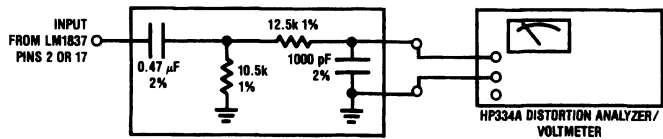

FIGURE 4. Simple 32 Hz-12740 Hz Filter and Meter
**Note 2:** Measured with an average responding voltmeter using the filter circuit in *Figure 4*. This simple filter is approximately equivalent to a "brick wall" filter with a passband of 20 Hz to 20 kHz (see Application Hints). For 1 kHz THD the 400 Hz high pass filter on the distortion analyzer is used.
To specify the distortion of the LM1837 accurately and also not require unusual or tedious measurements the following method is used. The output level is set to 1 Vrms at 1 kHz (approximately 5 mV at the input). The output is filtered with the circuit of *Figure 4* to limit the bandwidth of the noise and measured with a standard distortion analyzer. The analyzer has a filter that is switched in to remove line hum and ground loop pick-up as well as unrelated low frequency noise. The resulting measurement is fast and accurate.
The 32 Hz to 12740 Hz filter shown in *Figure 4* is a simple two pole, one zero filter, approximately equivalent to a "brick wall" filter of 20 Hz to 20 kHz. This approximation is absolutely valid if the noise has a flat energy spectrum over the frequencies involved. In other words a measurement of a noise source with constant spectral density through either of the two filters would result in the same reading. The output frequency response of the two filters is shown in *Figure 6*.